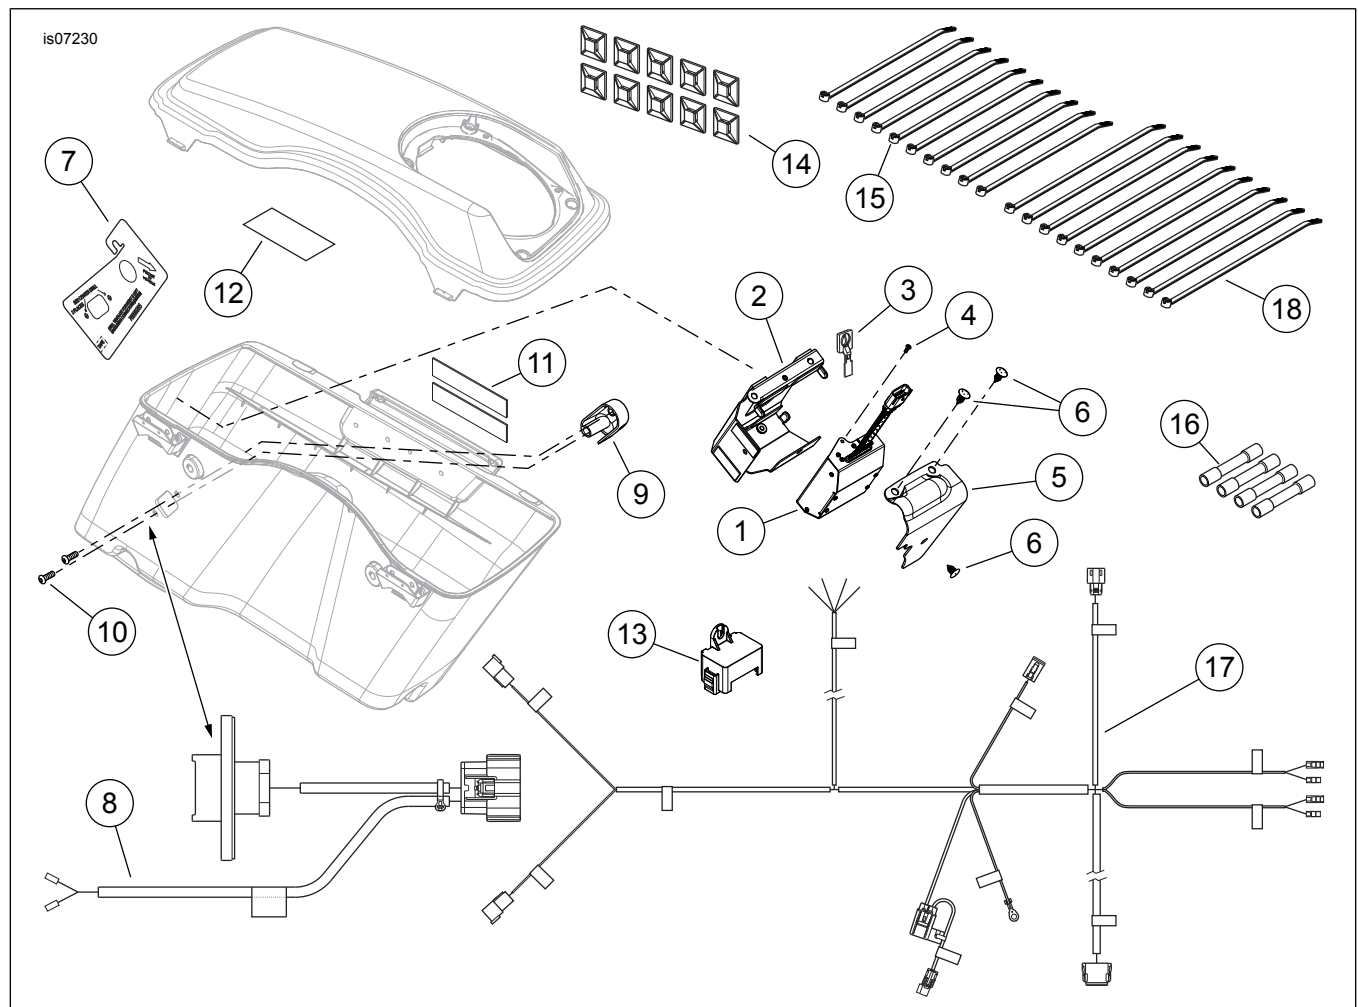

Figure 7. Service Parts, Boom! Audio Speaker Expansion Kit
4. **If saddlebag speakers are installed:** Plug the six-way connector (3), labeled "RH S-BAG LOC 289" into the receptacle coming from the right-side saddlebag. Fasten that leg of the wire harness to the upper rear of the saddlebag support. Follow the instructions in the Saddlebag Speaker Kit to apply the foam saddlebag latch pads (see Figure 7, item 11) as required. **If NOT installing saddlebag speakers,** seal the connector with electrical tape. Coil the harness leg labeled "RH S-BAG LOC 289" in the area under the seat. Proceed to **HARNESS ROUTING: ALL**.
2. See Figure 7. Get the secondary amplifier wire harness (17) from the kit.
- a. The rear speaker harness (Part No. 69200022) from the Saddlebag Speaker Kit will not be required. If previously installed, remove from the vehicle. Note the colors of the four unterminated wires (10) of the secondary amplifier wire harness. Note the wire colors and positions in cavities 5 and 6 of the six-way pin housings [41A] and [42A] of the radio harness (Part No. 69200106).
- c. Use the four sealed splice connectors (see Figure 7, item 16) from the kit to splice each wire from the secondary amplifier wire harness to the matching color wire from the pin housings.
- a. Note the colors of the four unterminated wires (10) of the secondary amplifier wire harness. Note the wire colors of the "speaker output" spade terminals [36D] and [37D] on the 1.3 m (52 in) long and 0.43 m (17 in) long legs of the rear amplifier harness on the vehicle.
- c. Use the four sealed splice connectors (see Figure 7, item 16) from the kit to splice each wire from the secondary amplifier wire harness to the matching color wire from the rear amplifier harness on the vehicle.
The weather cap (see Figure 7, item 13) is provided to seal off the saddlebag connector if disconnected for cleaning or service.
- See Figure 7. Get the drilling template (7) from the kit. **DO NOT MODIFY the right-side saddlebag** with the template unless installing the iPod Module Relocation Kit.